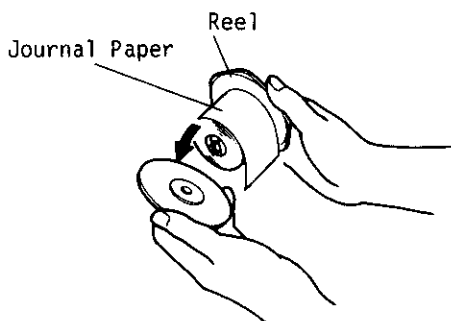

Fig. 11
3. The wound-up portion of the paper can easily be removed from the Reel by pulling it side way (Fig. 11)